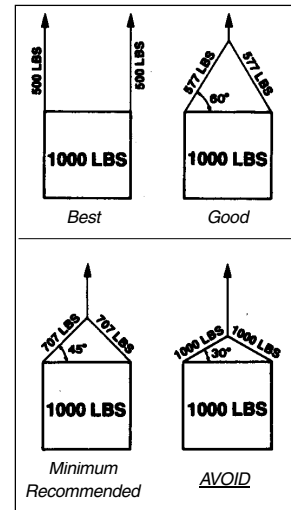

Figure 92
- Understand the effect of sling angle on sling load (Figure 92) and pull angle on beam load (Figure 93).